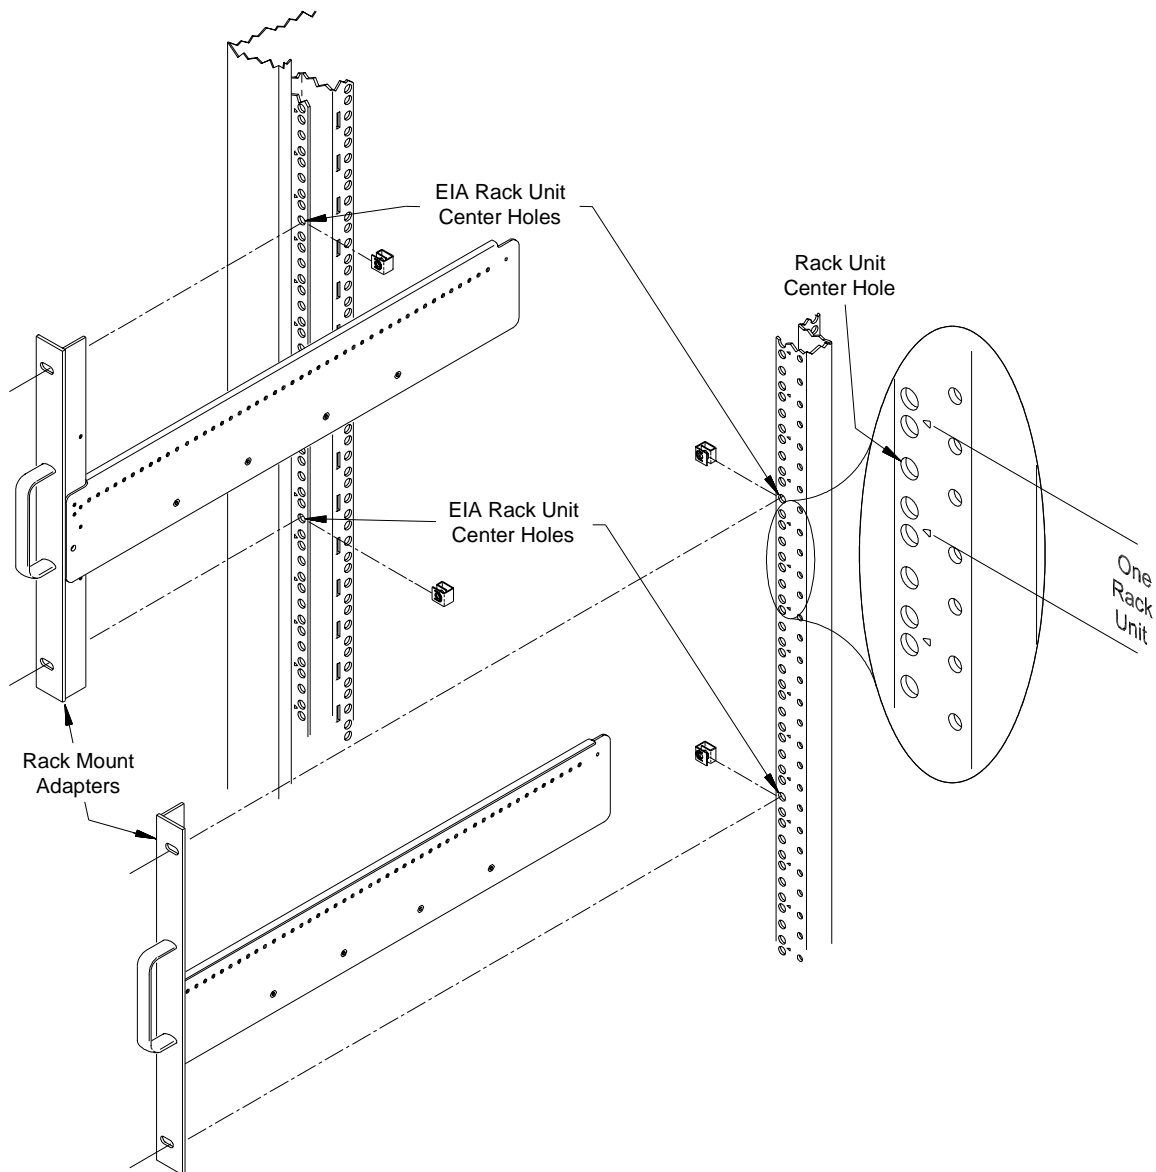

Figure B-6. Positioning the Mainframe in the Rack.
- Using the rack mount adapters as templates, position the adapters on the rack's vertical rails where the mainframe is to be positioned. Be sure to align the adapter holes over center holes on the vertical rail (Figure B-6).